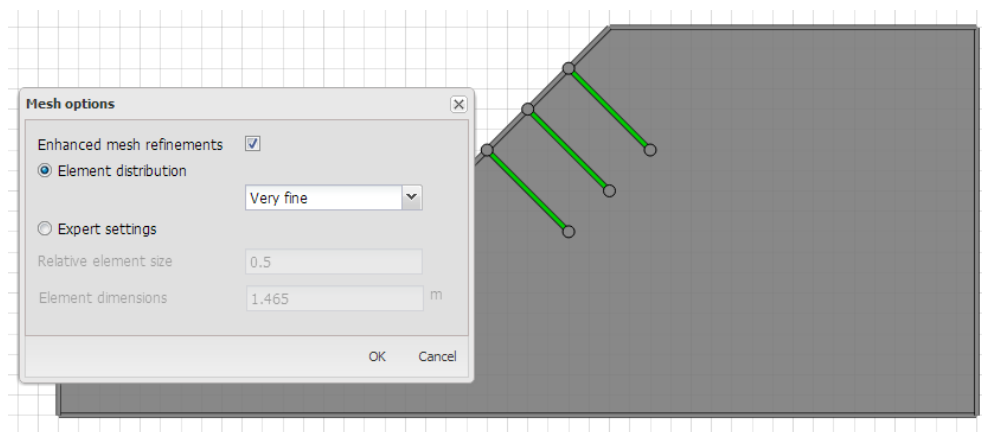

Figure 7: Mesh options window.
- Click **set type project materials** and select **to embedded beam row**, and then **Create new** (Figure 7) rockbolt data parameter set according to Table 2.
- Generate the mesh. Use the **very fine** for the **Element distribution parameter**. (Figure 7).